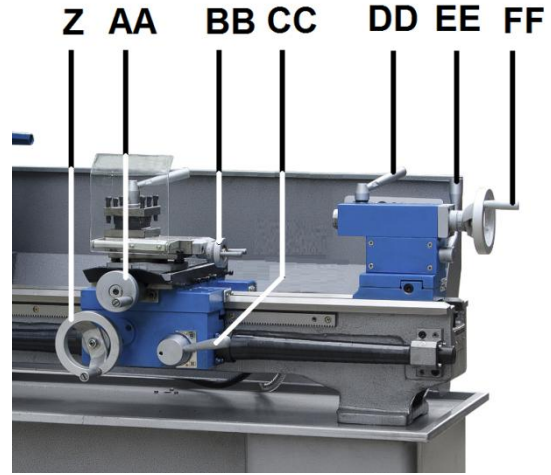

Figure 10-6: Machine controls
Apron travel (Z, Fig 10-6), cross travel (AA) and top slide travel (BB) can be operated for longitudinal and cross feeding.
Move the half-nut lever (CC, Fig 10-6) down, to engage the automatic longitudinal feed. Move it up to disengage
Engage the halve nut (CC, Fig 10-6).